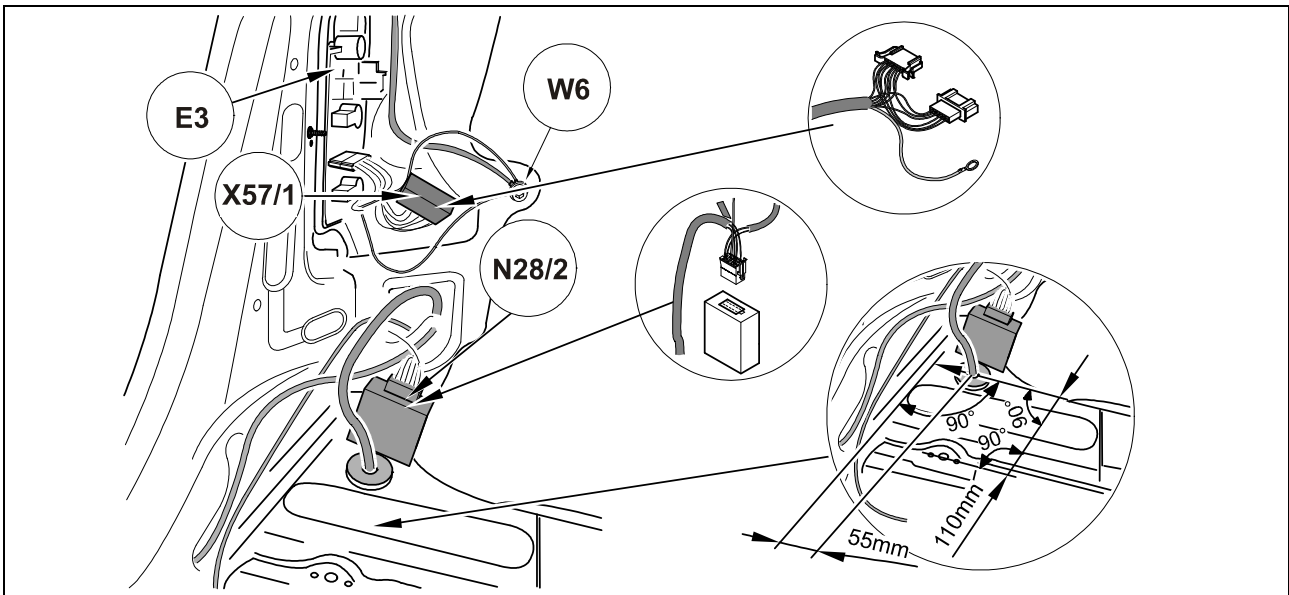

Fig. 4: Plugs
3. Remove the blanking plug from the cable bushing hole (2). On vehicles without a blanking plug, drill a hole of \varnothing 40 mm. Pay attention to the dimensions shown in Fig. 4!